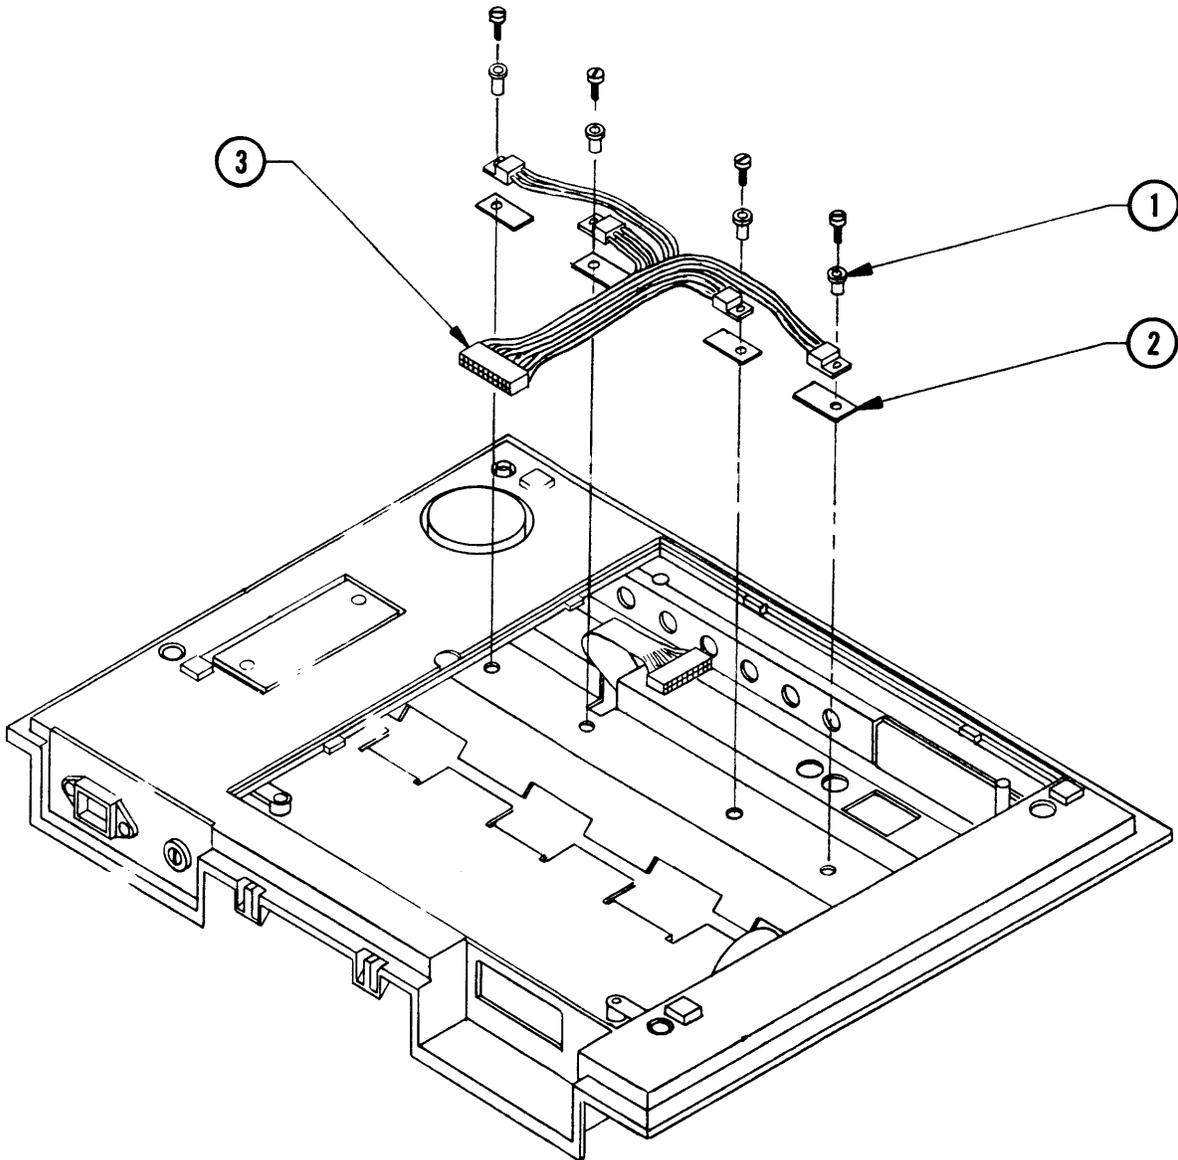

FIGURE 39
2. Turn the printer upside down. With the CPU PC board removed, locate the carrier drive transistor assembly (Figure 39, #3), which includes connector, cable, and four transistors.
IMPORTANT: Save the plastic insulators (Figure 39, #2), the washers (Figure 39, #1), and the screws. **Do not install them on the return module.**